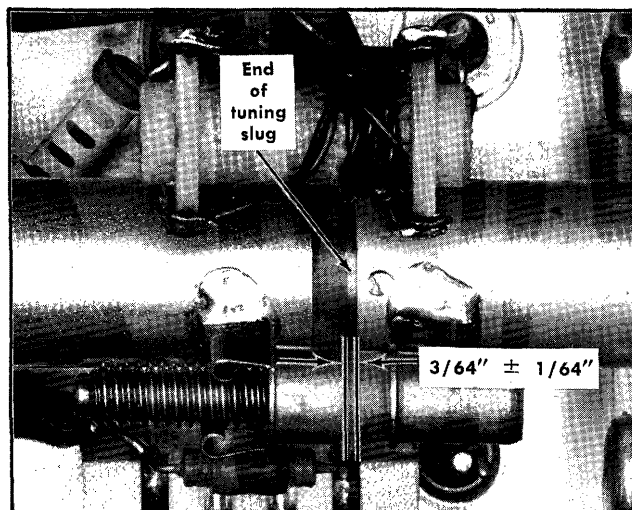

Fig. 4-21. Proper position of oscillator tuning slug when the dial reading is 36 mc.
n. Check the dial reading. If the dial does not read 36 mc,  $\pm 460$  kc, carefully adjust C49 (Fig. 4-21) so that the dial reading is proper when the signal is displayed on the screen.
r. Inside the oscillator, check to insure that the end of the tuning slug of the oscillator is positioned in the transparent plastic area of the sleeve no further than  $\frac{1}{16}$ " and no less than  $\frac{1}{32}$ " (Fig. 4-21). If not, turn the RF CENTER FREQ control until the tuning slug is within these dimensions. Once this has been done, move the metal tape of the RF CENTER FREQ dial so that the dial reads 36. The tape can be disengaged from the sprocket by slightly unrolling the tape from one of the rollers.